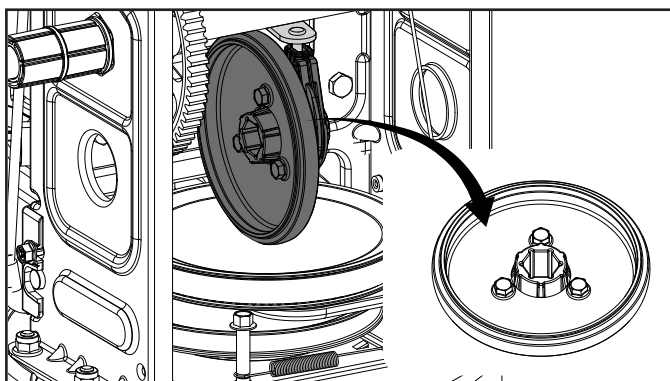

Figure 47
6. Remove the friction disc (Fig. 47).